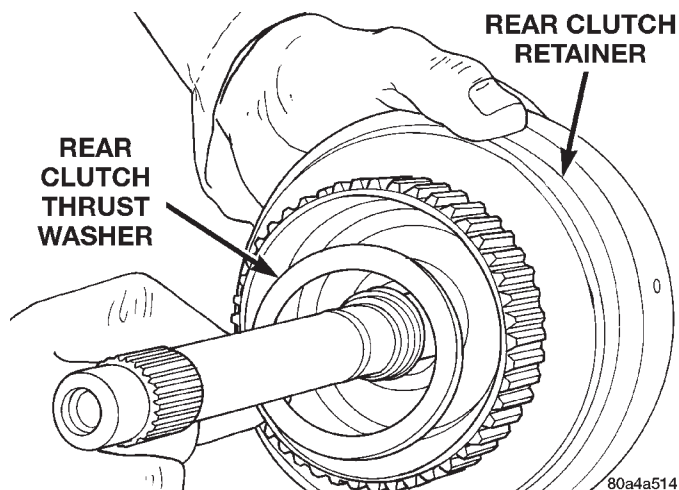

Fig. 144 Installing Rear Clutch Thrust Washer
(16) Coat rear clutch thrust washer with petroleum jelly and install washer over input shaft and into clutch retainer (Fig. 144). Use enough petroleum jelly to hold washer in place.